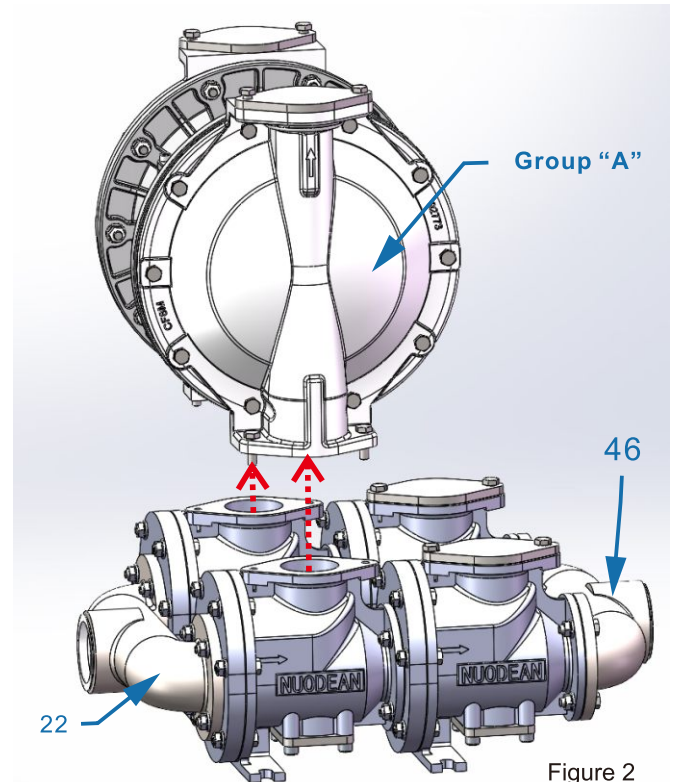

Figure 2
1. Remove Group "A". See Figure 2.
2. Remove inlet manifold (22) & outlet manifold (46). See Figure 2